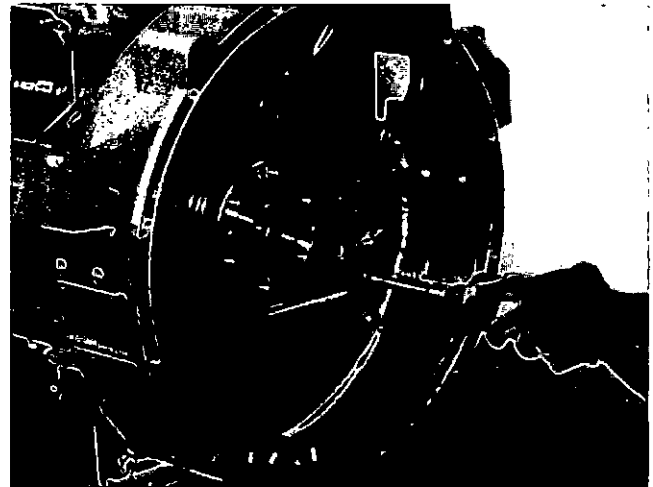

Fig. 0-50. Remove The Capscrews That Hold The Flywheel Housing.
2. Remove the capscrews, lockwashers and flatwashers that hold the flywheel housing to the cylinder block, Fig. 0-50. Install two dowel bolts to hold the housing.